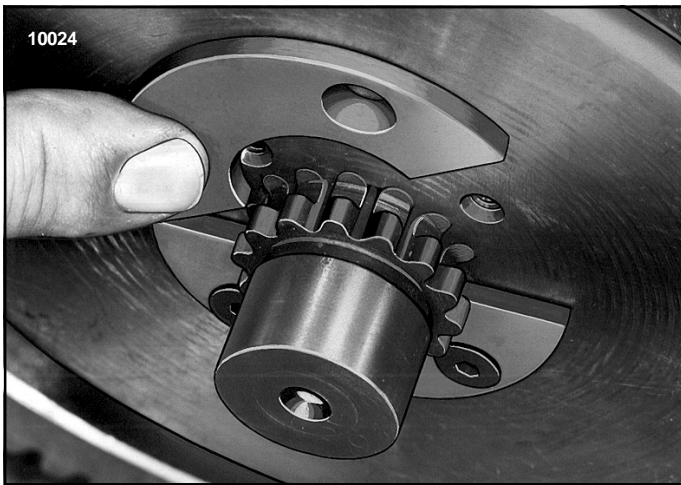

Figure 8-8. Installing Retainer Plates on Load Brake Shaft
- (3) To further disassemble the mechanical load brake either in or out of the gear case, remove the two or three self-locking screws from each of the two retaining plates, and removed plates from groove on splines of brake shaft (see Figure 8-8).